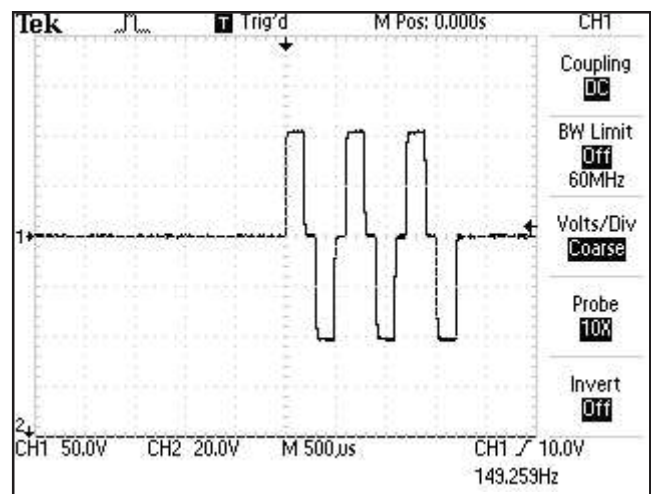

FIGURE 4.10
I. VMS™ Burst- Figure 4.10 (Vectra Genisys)